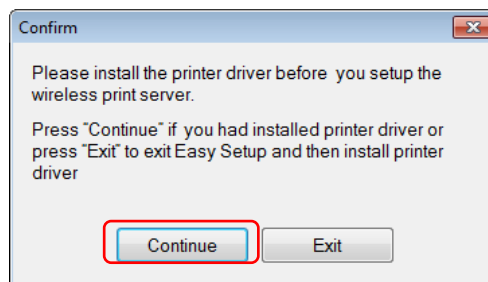

Figure 3-3
3. Then a prompt will appear as shown in Figure 3-3. Make sure you have installed the printer driver, and click **Continue**.